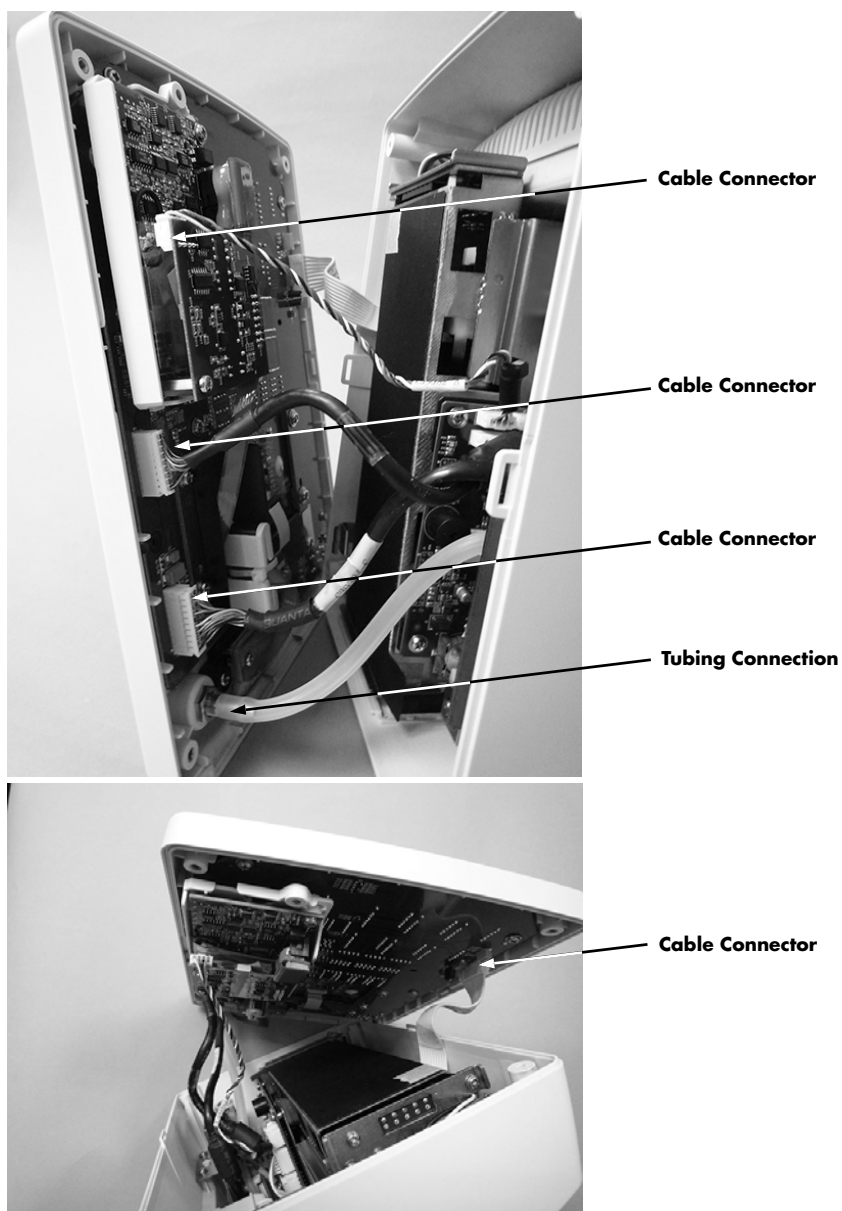

FIGURE 4-5 Separate the front and rear housings.
5. Separate the front and the rear housings (Figure 4-5).